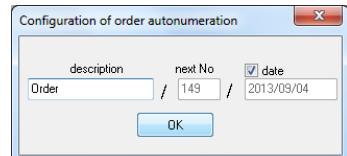

Fig. 37 – setting the autonumeration of orders
6) **'Configuration of order autonumeration'** – allows to set the format of the automated project numeration (Fig. 37).